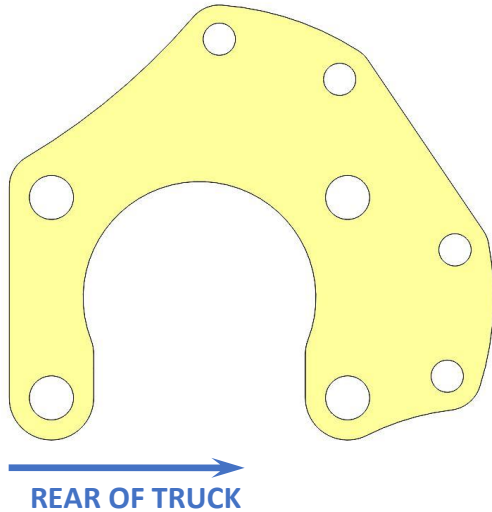
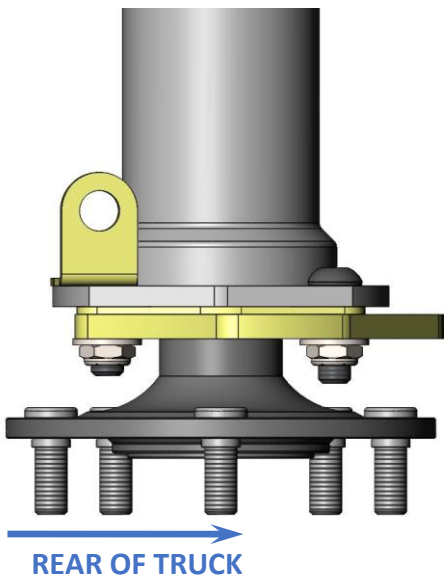

Figure 2a – Caliper Bracket Orientation
Figure 2c – TOP VIEW Primary Caliper Bracket Installed
- Reinstall the axle shaft into the axle housing, first going through the Axle Flange Spacer Plate. Follow this by installing the supplied 1/2"-20 x 1.500" Button Head Cap Screws into the axle housing. Make sure that the 2 forward most bolts go through the supplied Brake Hose Mounting Brackets. These brackets are left and right specific and are designed so the tab faces inward to the truck. With the bolts in place, slide the Primary Caliper Bracket over the axle shaft and onto the bolts. **NOTE: The Primary Caliper Brackets are left and right specific and designed to position the calipers towards the rear of the truck.** See Figures 2a and 2b below for bracket orientation and installation. Install the Flat Washers and Nylon Lock Nuts and torque all bolts to 75 lb/ft. Refer to Figures 2c and 2d below for what it will look like properly installed.